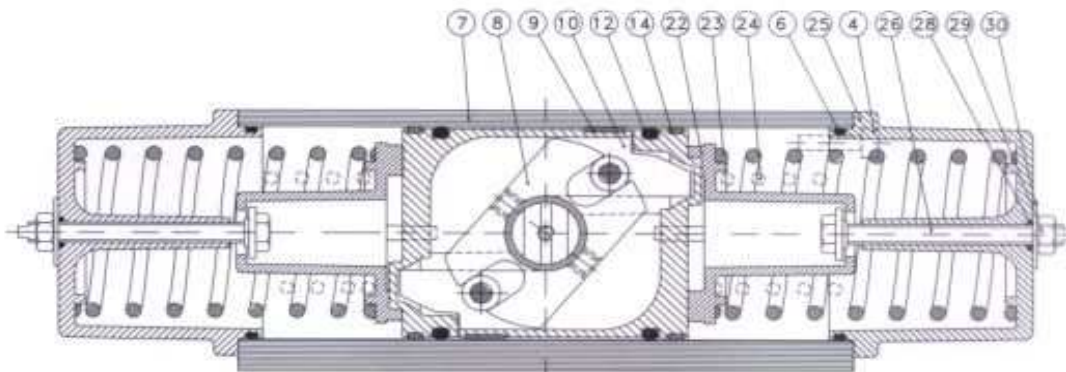

Fig. 3 RC 200-SR from above
The SR actuators have the pistons turned (rotated) 180° in relation to the DA actuators according to figure 3 on page 3. This gives an increase of the torque towards the end of the rotary motion, although the spring force is diminished.
If the pistons in a DA actuator are mounted according to figure 3 on page 3, the fine adjustment will take place in "open" valve position. The actuators can be supplied with adjustment in both end positions on request. The possibility to turn the pistons can be used in several ways in order to suit the actuators to the customer's requirements. For further information on this, please consult factory
4. Mount the pistons according to figure 3 on page 3.